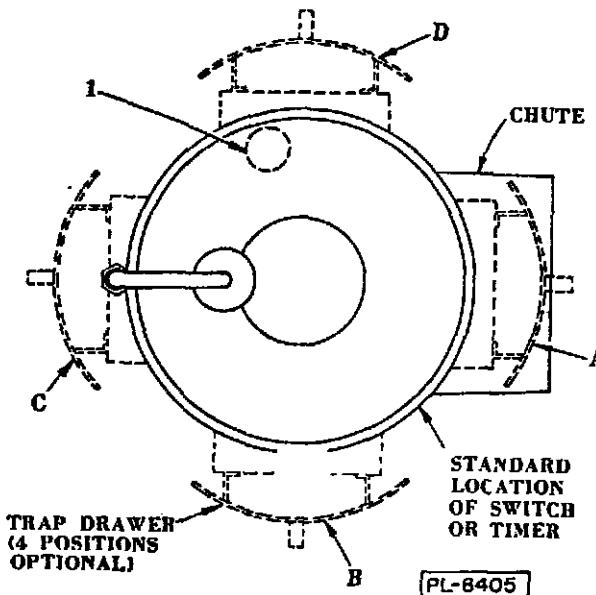
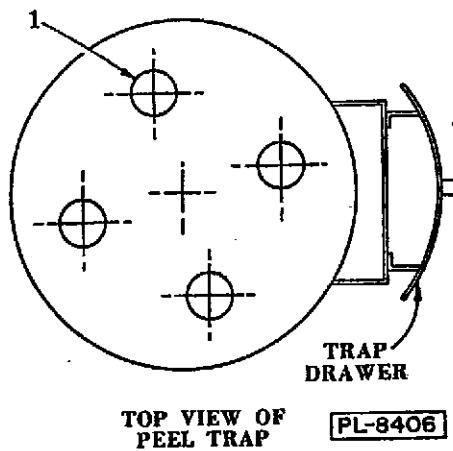

Fig. 2
Fig. 3
A.4.4.1 The discharge chute, fill pipe and drain hose (1, Fig. 2) have fixed positions on the peeler, but the relationship of the peel trap drawer may be changed to any one of four positions (see A, B, C, D, Fig. 2). Disconnect peeler from peel trap (section A.2.3). Remove cover disc (1, Fig. 3) from desired hole in peel trap top, place peeler drain hose through hole and reassemble peeler to trap.